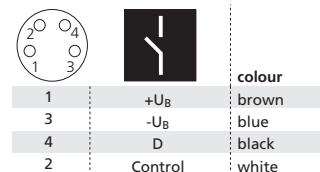

Fig. 1: Pin assignment with view onto sensor plug and colour coding of the microsonic connection cable.
- Set one ews-15/CD to function transmitter and one ews-15/CD as a receiver by corresponding assignment of pin2 (see fig. 1 and 2).